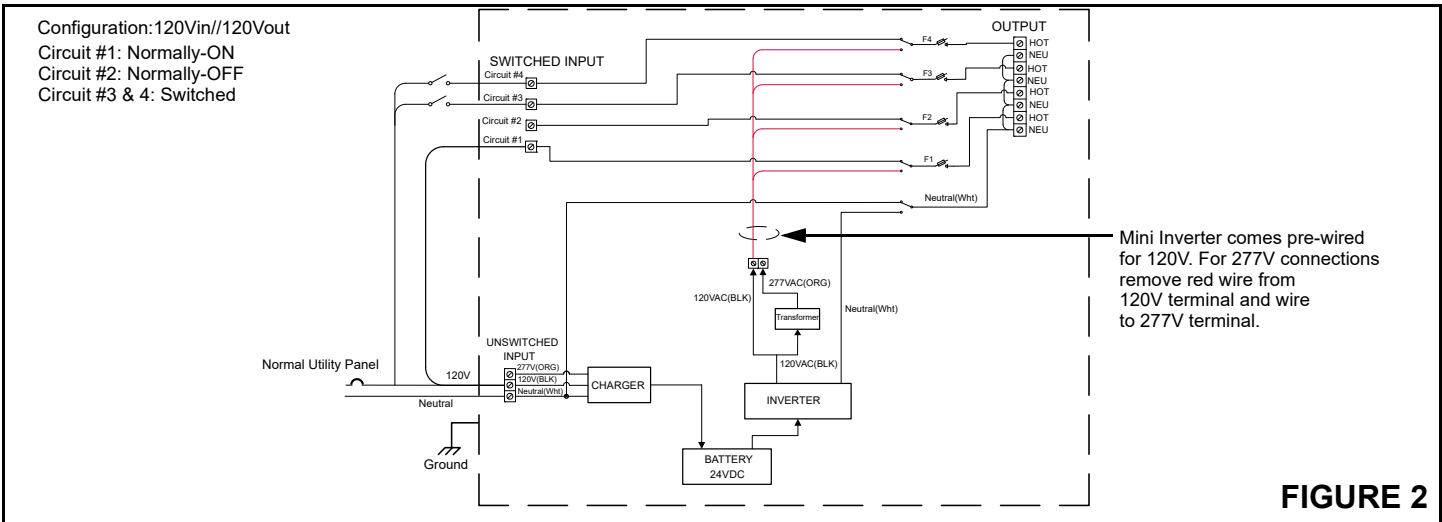

FIGURE 2
- Mini Inverter with option -4 can control four individual circuits (see figure 2).
- Power supplied to the switched inputs must be fed from the same branch circuit as the unswitched input (see figure 2).**
- Unit is shipped from factory pre-set for 120V in // 120V out and configured for Normally-On load operation (see figure 2). This configuration can be changed to fulfill customer's application.
STEP 2: CONFIGURATION OF OUTPUT VOLTAGE (SEE FIGURE 2 AND 3)